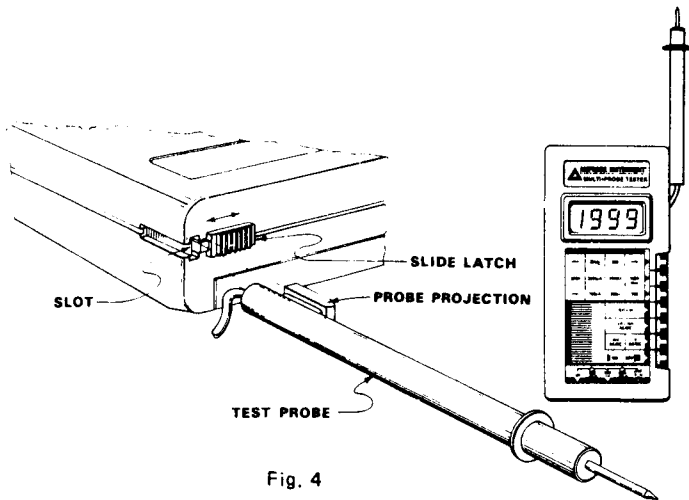

Fig. 4
- 3) Align the probe projection on the test probe (Fig. 4) with the appropriate slot in the top of the AM-5.